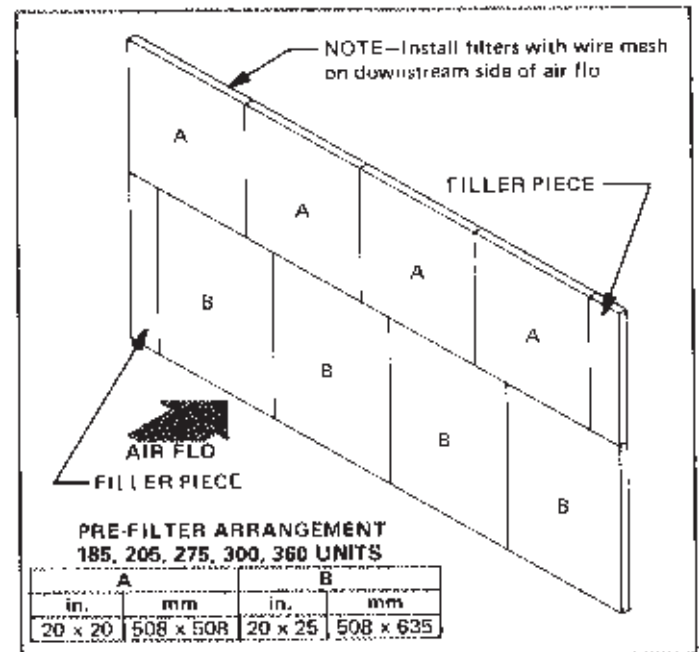
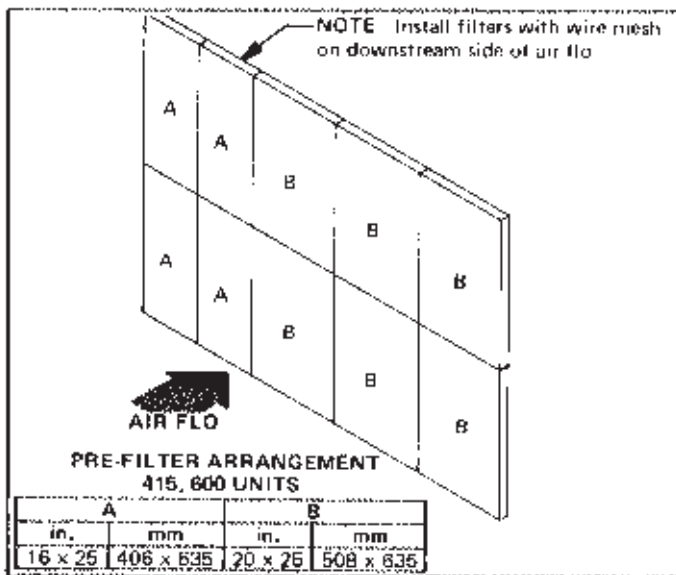

FIGURE 125
FIGURE 126
**IMPORTANT** - The pre-filters must be cleaned regularly to extend the life of the bag filters. Be sure to reinstall pre-filter seal strips after each cleaning. Use the same procedure as for "I Polyurethane Filters". Refer to pre-filter arrangement, Figure 125 (185, 205, 275, 300, 360) or Figure 126 (415, 600).